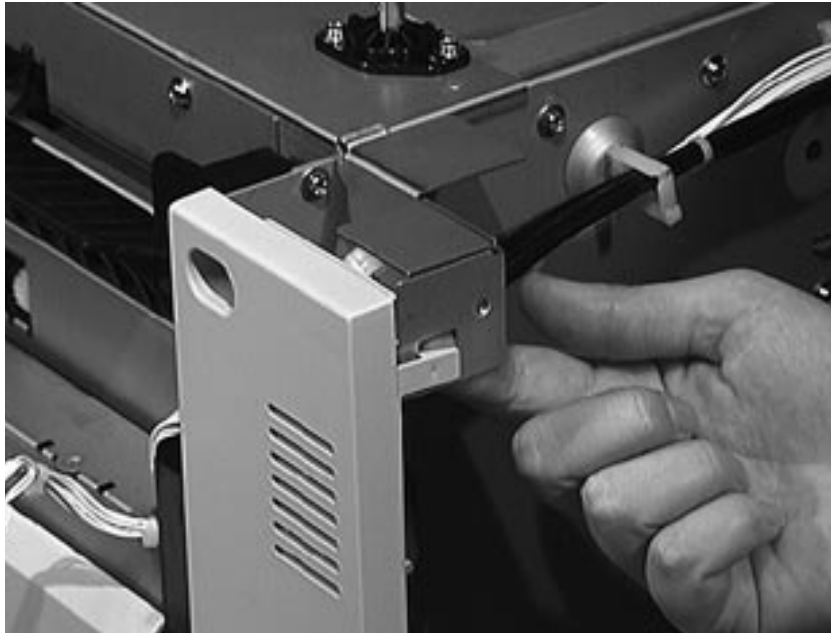

Figure 6-133 Right Cover (3 of 3)
- 4 Release the tab from the right side of the Right Cover as shown in figure 6-133.